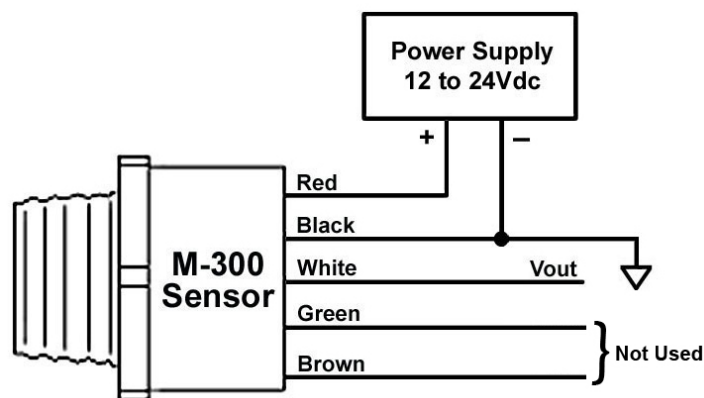

Figure 2
- With the 12-24 V DC Power Supply turned OFF, connect it to the red and black leads of the M-300 Sensor, as shown in Figure 2. The output for model M-320 is a current output (Iout).
M-300/M-320 Sensors are powered from 12 to 24 V DC sources, either batteries or power supplies, that are capable of supplying currents of approximately 30 ma (M-300) and up to 50mA (M-320). The red and black wires of an M-300 Sensor must be connected to the DC power, as shown in Figures 2, 3, and 5 in Section 2.
The white lead of an M-300 Sensor produces a DC analog Output Voltage, V_{out} , as shown in Figure 2, 3, and 5 in Section 2. The value of V_{out} provides information regarding the Target Distance, which is the distance from the sensor to a target. M-300 Sensors have two modes of operation. In the Proportional Voltage Output Mode, V_{out} is an analog DC voltage that is directly proportional to the Target Distance. In the Switched Setpoint Output Mode, V_{out} switches between two different voltage levels based on the Target Distance falling within specific distance zones that are programmed into the M-300 Sensor as Setpoints. More detailed information regarding the use of these two operational modes is contained in Section 5.